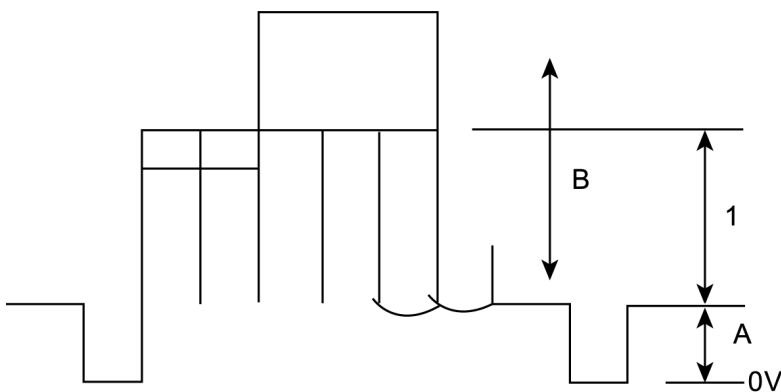

Fig. 4
6. Set (A) to  $2.3 \pm 0.2V$  by BRT (CHK2) at measurement point TPL 2 Fig. 4.
1. Connect oscilloscope probe to TPL 2 (G OUT) with  $10k\Omega$  series resistor and adjust Contrast so that (B) as in Fig. 4 is  $2.6 \pm 0.1V$ .
2. Adjust "Sub Colour" so that waveform as in Fig. 4 (1)  $2.5 \pm 0.1V$ .